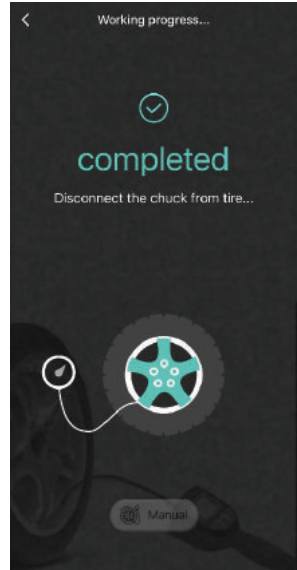

Fig. 12
- 3) After the inflating and deflating is completed, the machine will be beeping, and the APP display interface will show to the completion interface. (See Fig. 12)